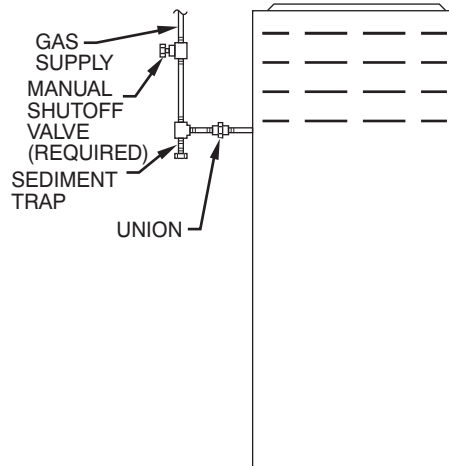

Fig. 22 - Typical Gas Pipe Arrangement
Install a sediment trap in riser leading to furnace as shown in Fig 22. Connect a capped nipple into lower end of tee. Capped nipple should extend below level of furnace gas controls. Place a ground joint union between furnace gas control valve and exterior manual equipment gas shutoff valve. A 1/8-in. (3 mm) NPT plugged tapping, accessible for test gauge connection, MUST be installed immediately upstream of gas supply connection to furnace and downstream of manual equipment shutoff valve.
4. Remove and save two screws holding J-Box. (See Fig. 22.)